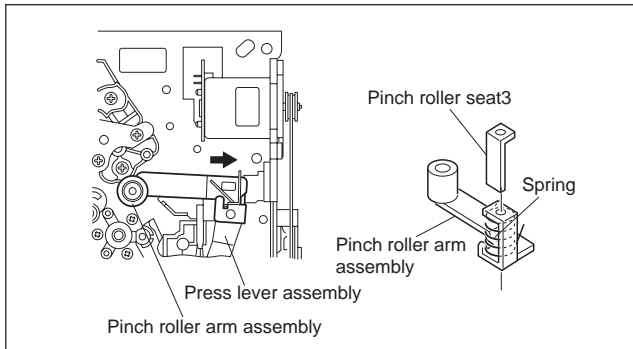

Fig.3-2-4a
- (1) Remove the spring from the hook of the press lever assembly.
- (2) Remove the slit washer and remove the pinch roller seat 3. (See Fig.3-2-4a.)
- (3) Remove the pinch roller arm assembly by pulling it up.